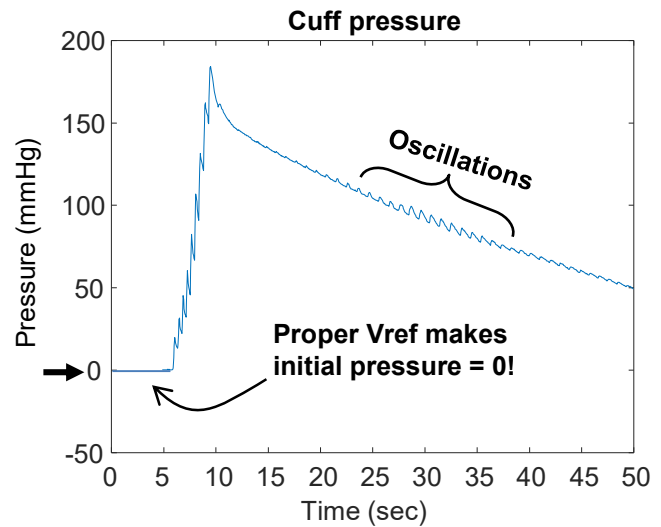

Fig. 9: Your plot of **Pcuff** vs time should look something like this after the proper value of **Vref** has been determined.
- (1) Convert **Vmeas** to cuff pressure **Pcuff**.
- (2) Apply a digital high-pass filter to **Pcuff** to isolate the oscillations.
- (3) Find the location of the peak oscillation in the filtered **Pcuff** signal.
- (4) The **MAP** is the value of **Pcuff** corresponding to this location!
- You should get a plot that looks similar to Fig. 9.
- The first figure shows a plot of cuff pressure vs time (like Fig. 9)
- **Save the two figures (your version of Fig. 9 and Fig. 11) for your lab report and show to Buma.**